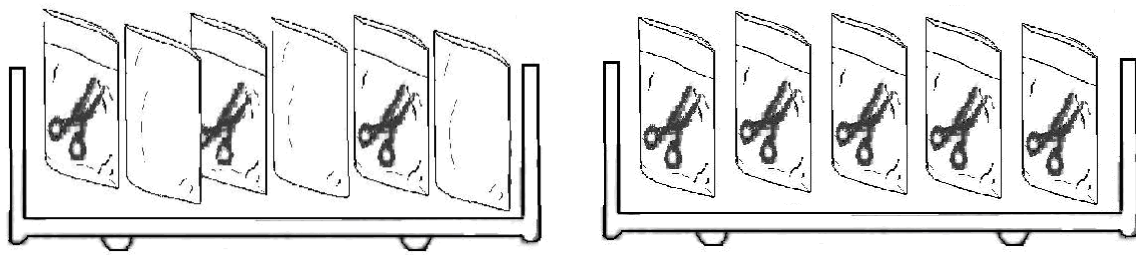

Figure 3
3. If implements are packed with sterilizing pouches and placed inside a sterilization box, make sure to display items as shown in Figure 3.